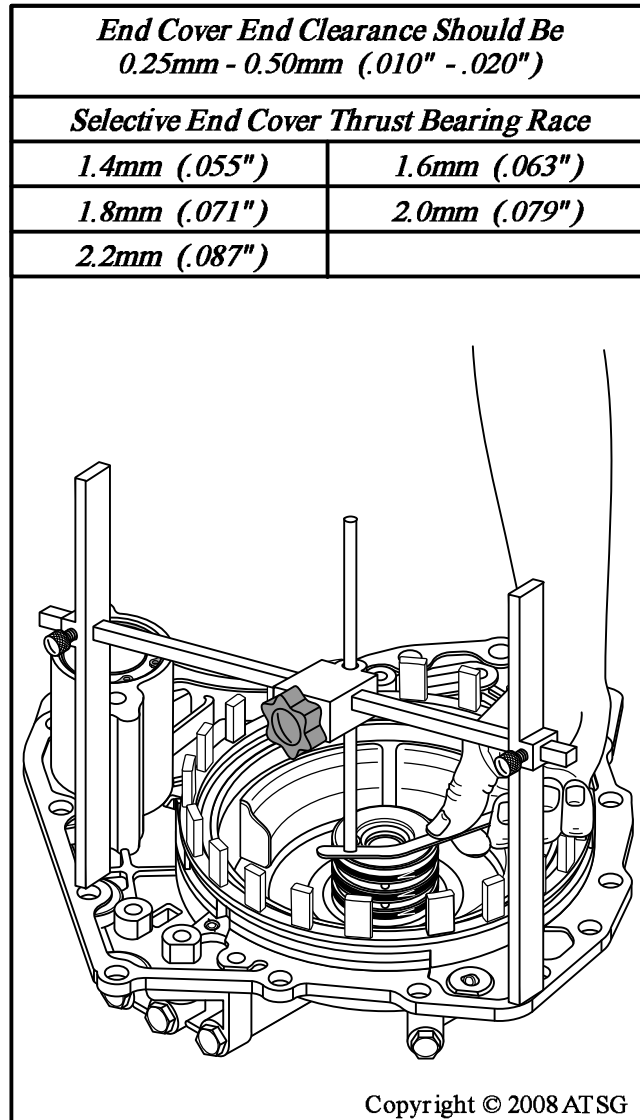

Figure 210
44. Turn the "H" Gauge over with previous setting and set it on end cover, as shown in Figure 210.
45. Measure the clearance between the adjusting rod and the selective thrust bearing race, as shown in Figure 210.
46. Change the selective thrust bearing race using the chart in Figure 210.